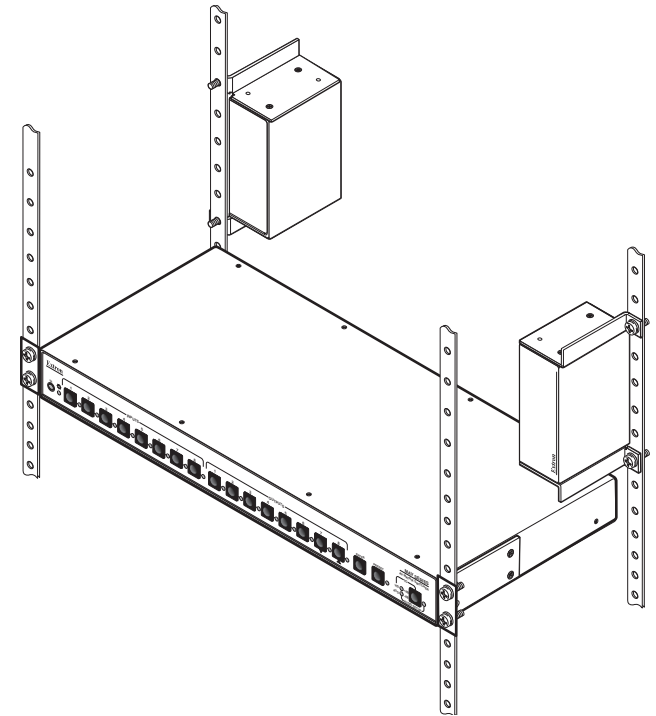

Figure 5 — Typical back of the rack installations
5. Mount the unit to the rack using the two included rack screws (figure 5). The SEQ can be vertically mounted facing in either direction.